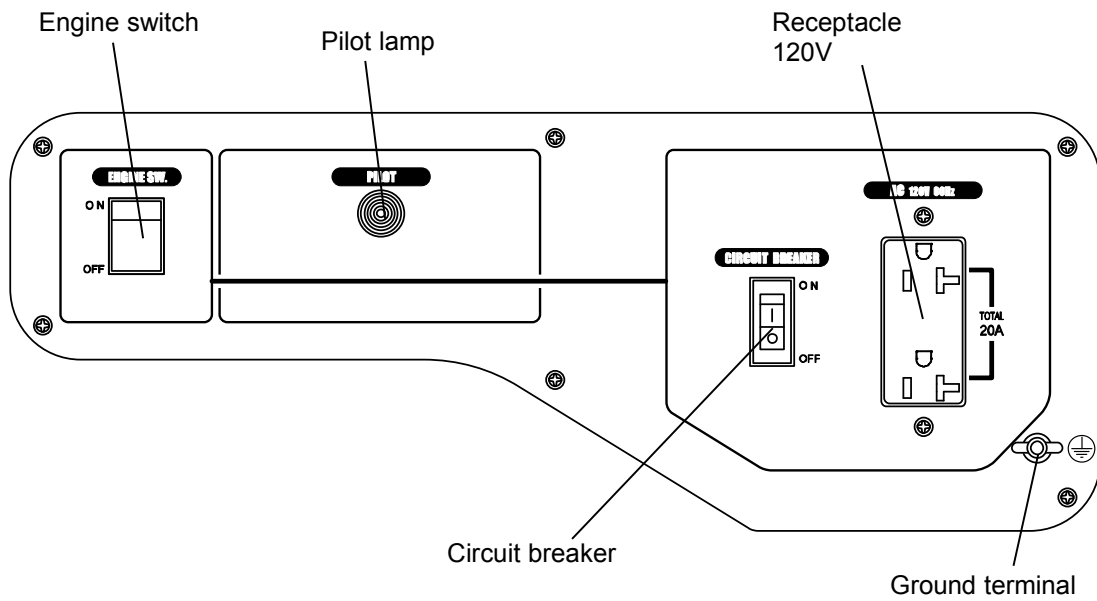

Figure 3-1: Model TPG4-3000HDX
NOTE: Refer to Figures 3-1 through 3-3 for illustrations of the generator front panels. Familiarize yourself with the layout of the front panel for your generator before operating the generator.
- (1) The main operating controls for the generator are, with a few exceptions, mounted on the front panel of the generator.
- (2) The controls consist of an ENGINE switch, an IDLE CONTROL switch, a VOLTAGE SELECTOR switch, GFCI switch a PILOT lamp, CIRCUIT BREAKER(s), a ground (or earth) terminal, and electrical receptacles. The specific controls used in each models are shown in Figures 3-1 through 3-3.